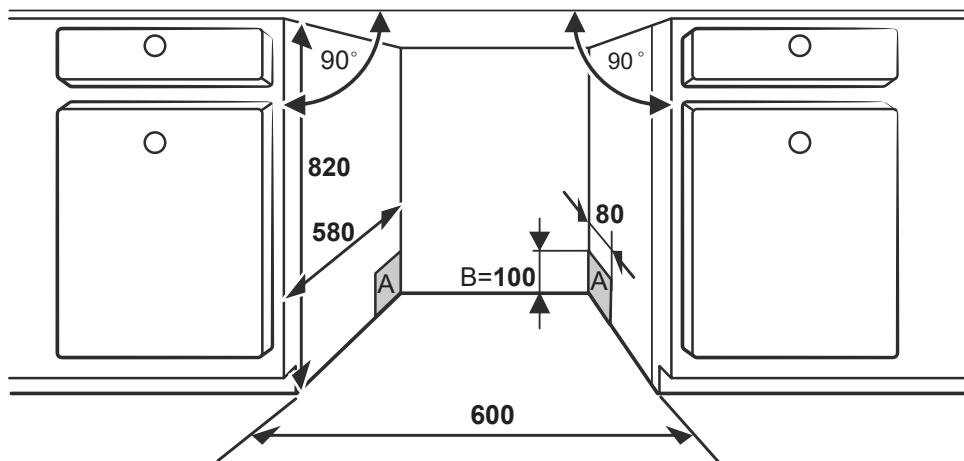

Figure 1
1. Choose a place near the sink to facilitate the installation of inlet and drain hoses (see figure 1).
7. Place the dishwasher **into position**.(*Figure 1*)